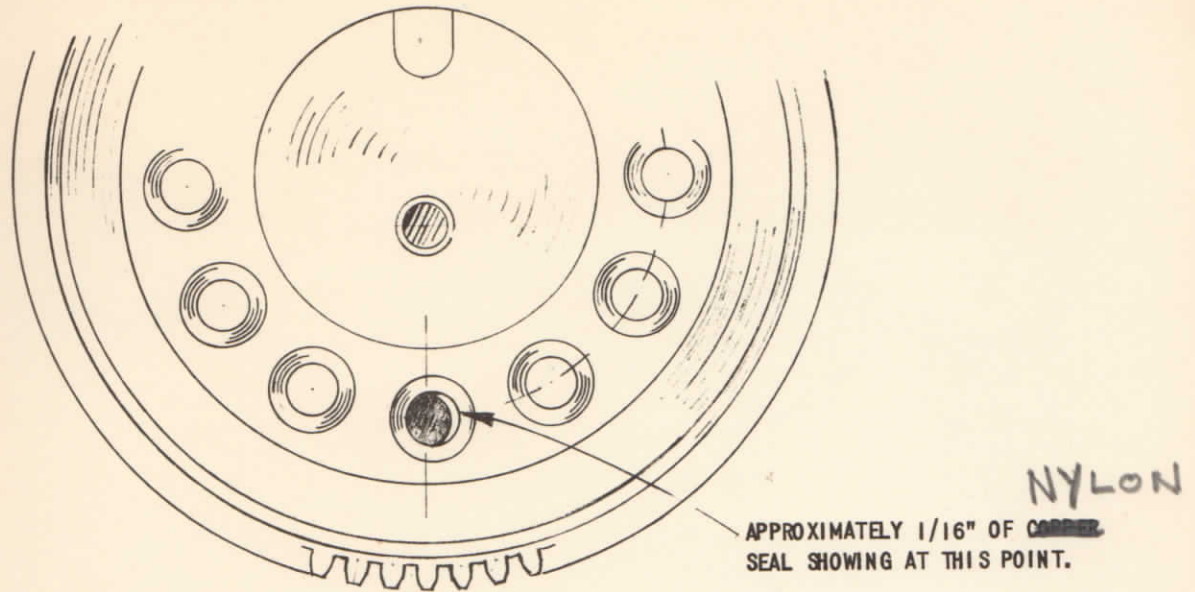

Figure 12
2. Place the shot gear on its hub on top of the cylinder block and in mesh with the pinion. Looking straight downwards, move gear tooth by tooth (do not turn gear while in mesh with the pinion, lift up and out of engagement each trial time) until one of the holes in the shot gear is over the breach hole with just a little of the ~~copper~~ ^{NYLON} air seal washer showing (about 1/16") as is pictured in Figure 12.